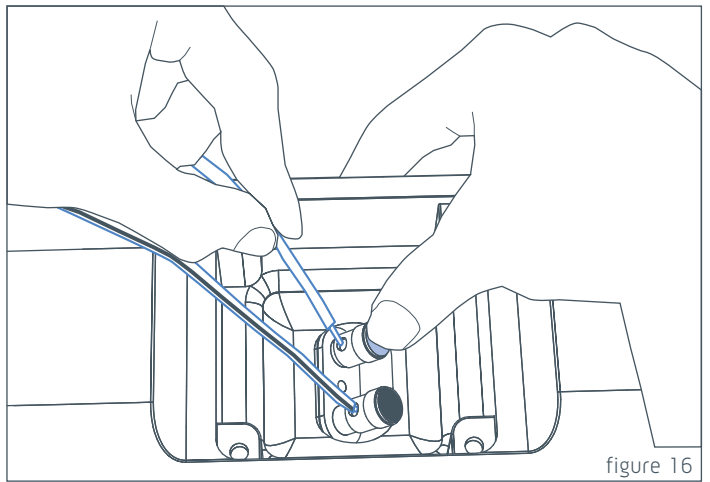

figure 16
- Push and hold down positive (+) red binding post on speaker and insert positive (+) wire through hole in post. Take care to assign the same cable colour or trace to the positive (+) connector on the amplifier, as the positive (+) connector on the speaker. Repeat connection process with negative (-) black binding post and negative (-) wire. (figure 16)